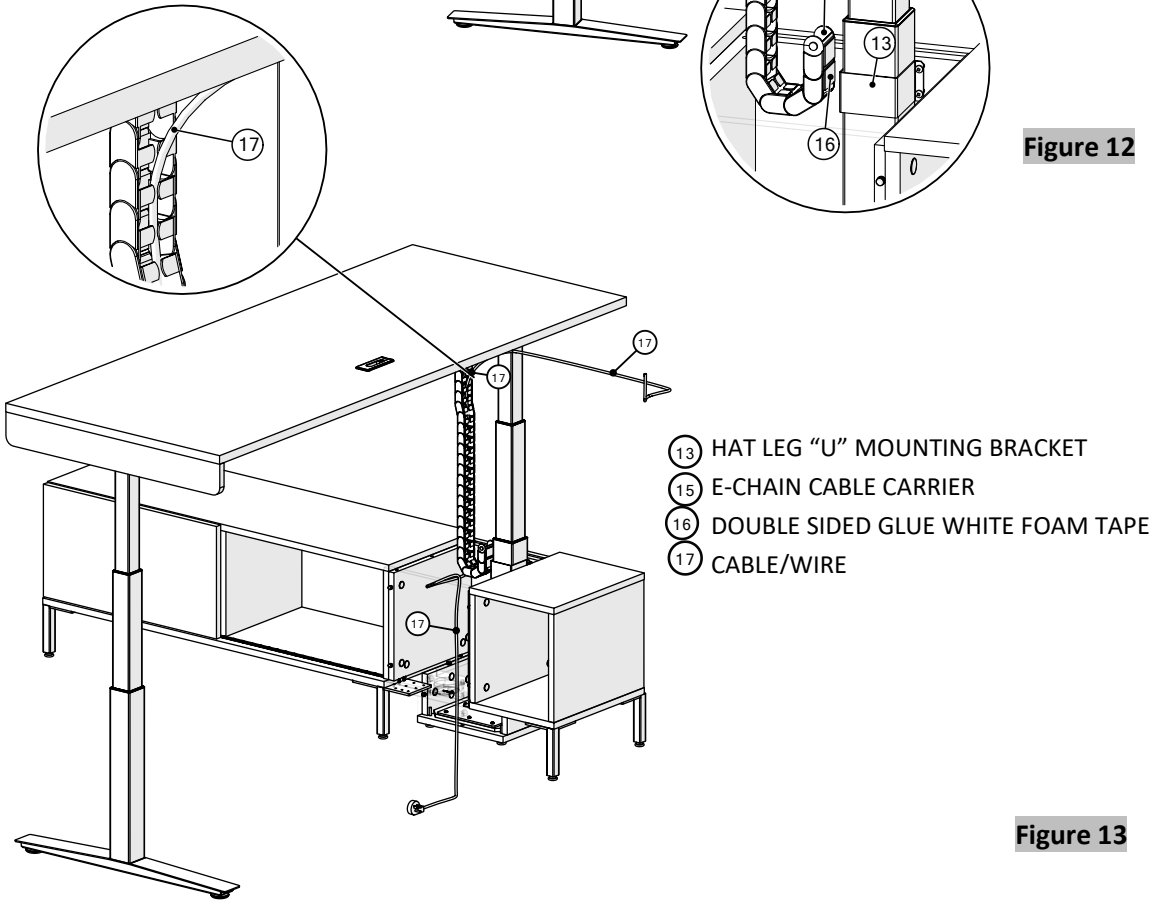

Figure 13
- 19. Lay in the wires/cable; fish in the wires/cables through the grommet of the HAT integration box, (Figure 13).